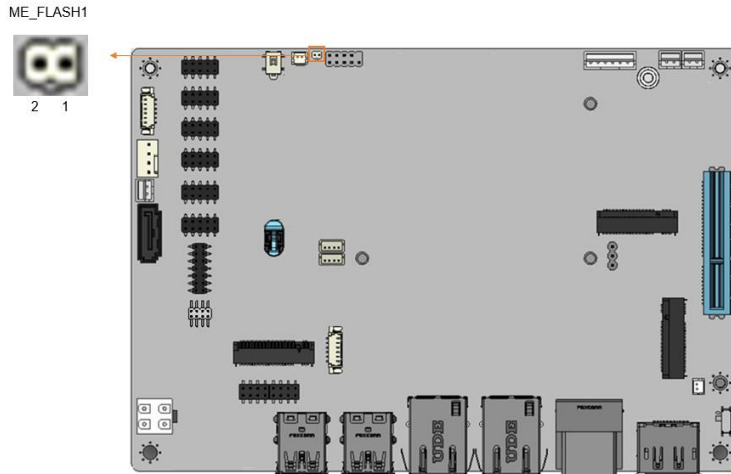

Figure 3-8: Flash Descriptor Security Override Setting Jumper Location
- CN Location:** See Figure 3-8